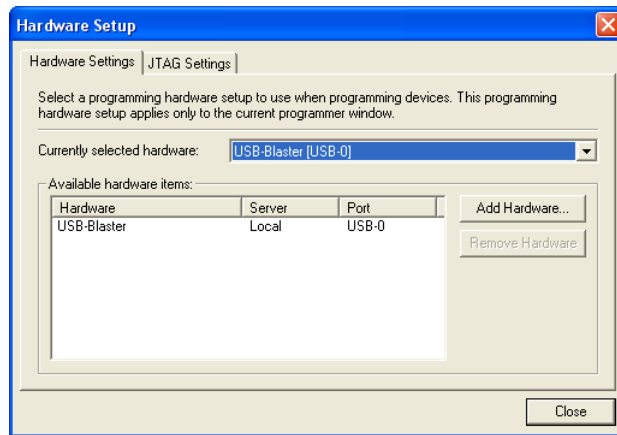

Figure 10. Setting up hardware.
- For SignalTap II to work, we need to properly set up the hardware. First, make sure the DE-series board is plugged in and turned on. In the Hardware section of the SignalTap II window, located in the top right corner, click **Setup**, bringing up the window in Figure 10. Double click **USB-Blaster** in the Available Hardware Items menu, then click **Close**.